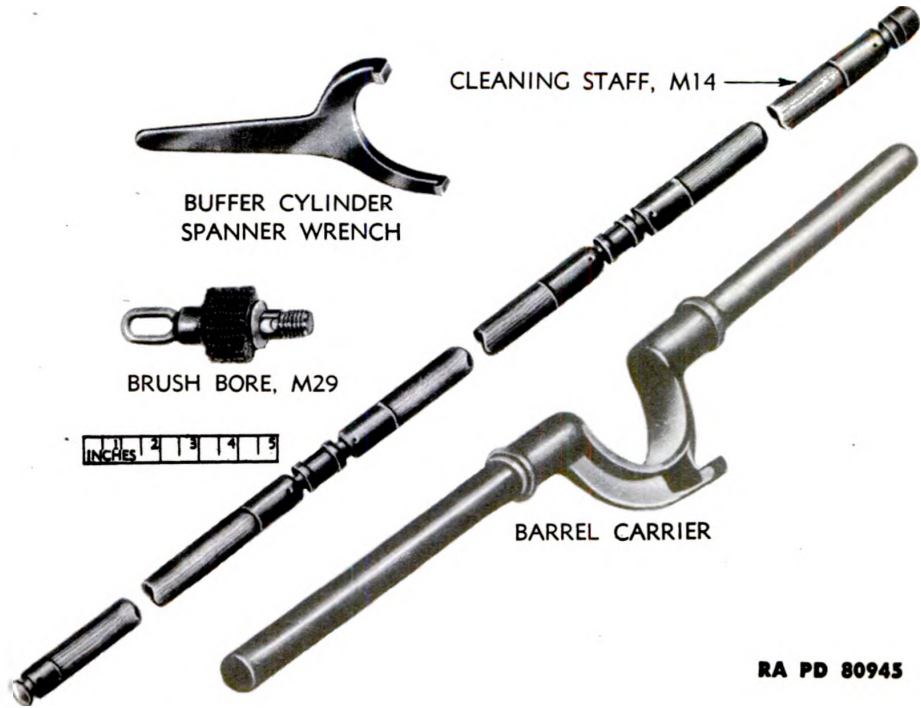

Figure 212 – Accessories for 40-mm Gun and Carriage
d. **Barrel Carrier (C95032).** This carrier (fig. 212) consists of two tubular steel handles which are inserted into a cradle. The handles are held in position in the cradle by straight pins that go completely through cradle and handles. The carrier is used to support the rear of the barrel assembly when removing it from and installing it in the breech ring.
e. **Bore Brush M29 (B240944).** This bore brush (fig. 212) consists of a spiral bristle brush with a nut on one end. Its use is to oil the bore of the gun.
**40-MM AUTOMATIC GUN M1 (AA) AND 40-MM ANTI-AIRCRAFT
(fig. 212) is constructed of steel having an over-all length of 6.75 inches. Its use is disassembly and reassembly of buffer cylinder on the under side of the loading tray.
h. Cleaning Staff M14 (C97385). The cleaning staff, 144 inches long (fig. 212), consists of three wooden sections. It is used with the bore brush for cleaning bore of gun. The bore brush is removed and the shell ejector substituted when removing stuck shells from gun chamber.